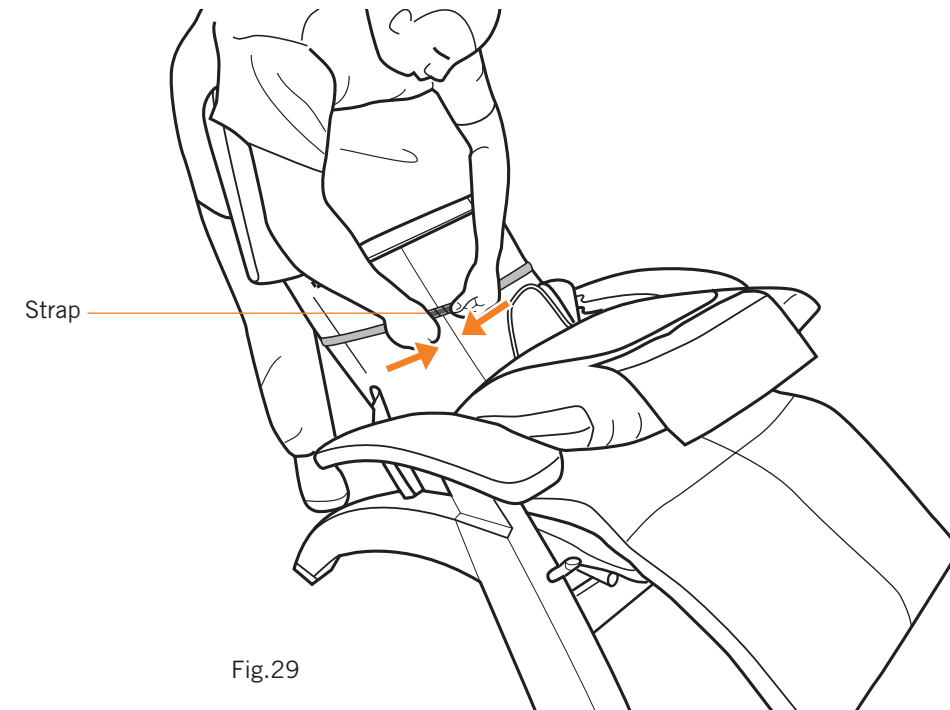

Fig.29
3. Wrap the side straps around the front of the chair canvas, pull them taut, then secure them using the hook-and-loop fasteners (Fig.29). **NOTE:** If the straps are too tight it causes back pad wrinkles.